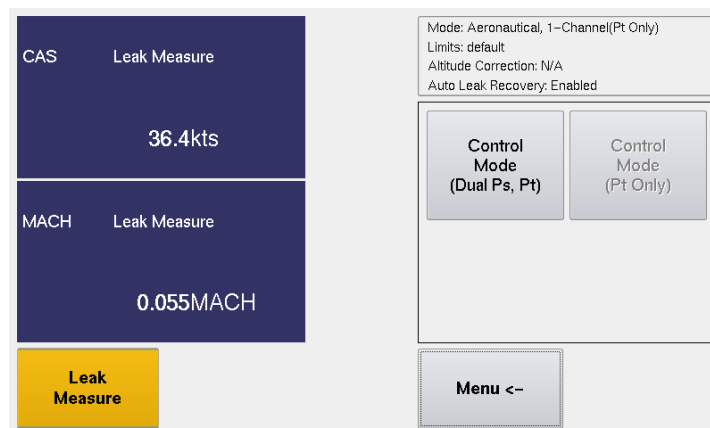

Figure 19 Optional 1-Channel (Pt Only) Mode
(2) Aeronautical 1-Channel (Pt Only) (Figure 19)